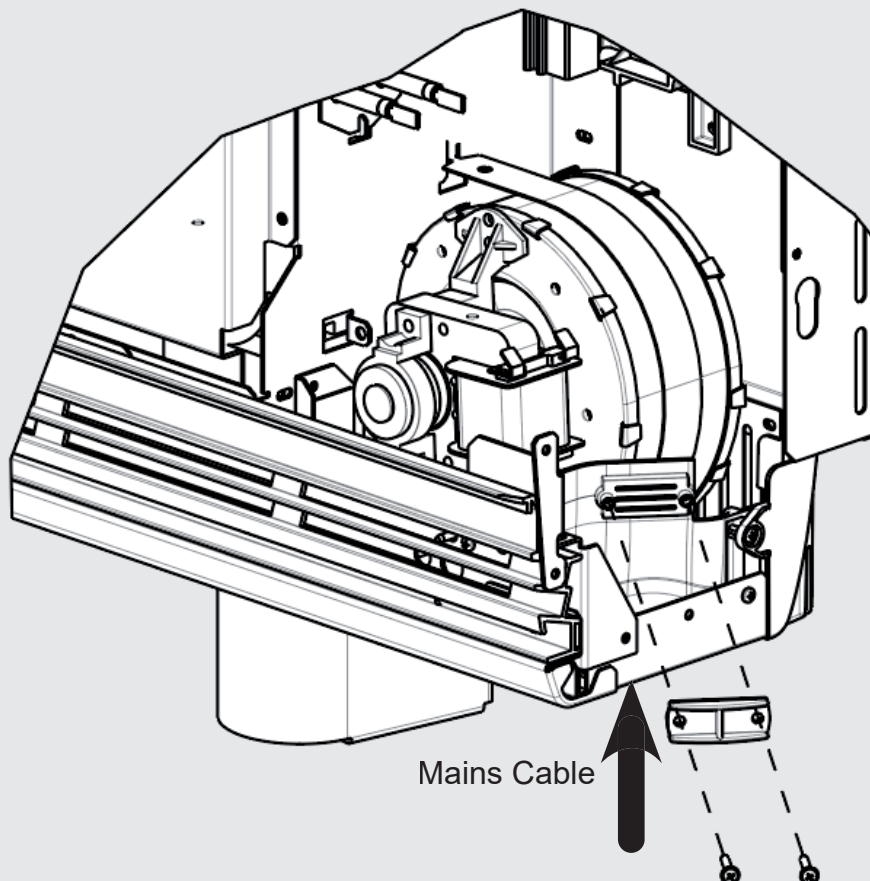

Fig. 10
10. The mains cable entry and terminal block will be visible in the centre of the cavity at the right hand side. Insert the mains cables through the cable gland at the bottom of the heater in readiness for connection (Fig. 10).